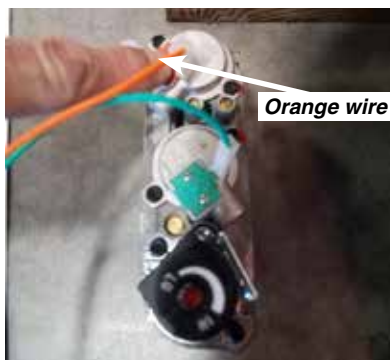

Figure 20a
23. Carefully remove the Orange EV1 wire from the gas valve and carefully connect Blue wires from PVK to EV1 and Orange wire (NOTE - gas valve has been removed from unit to better show the wire connections) – Shown in Figure 20a, 20b, 20c & 20d.